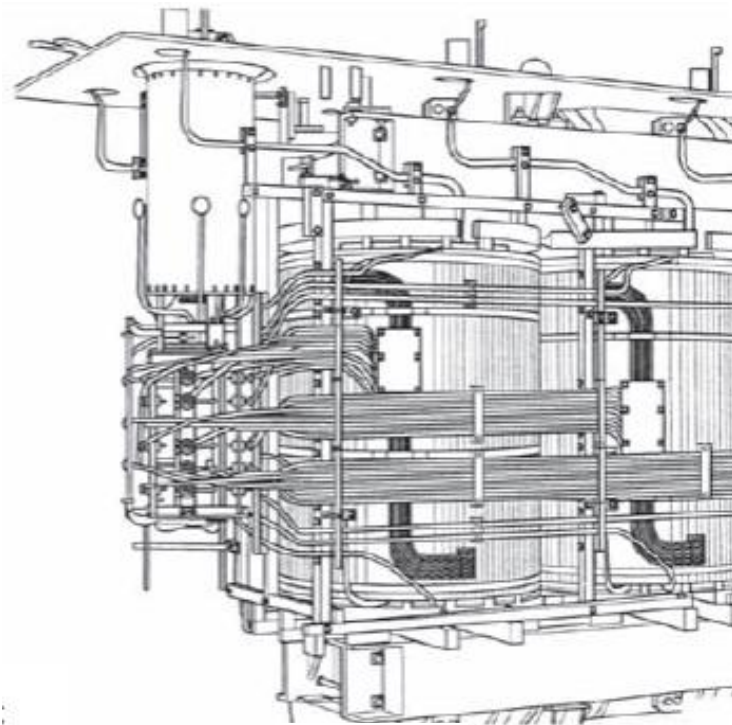

Figure 7
4.1 Installation of on-load tap-changer in box top transformer (Figure 7)